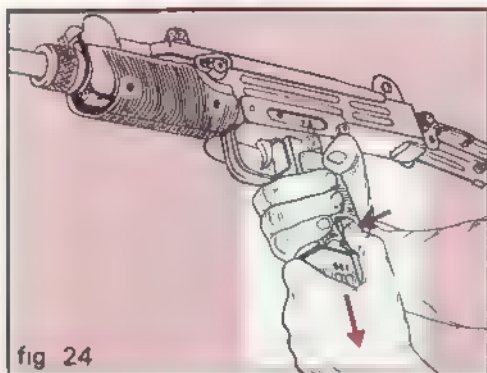

fig 24
2. Depress magazine catch and remove magazine (fig. 24)